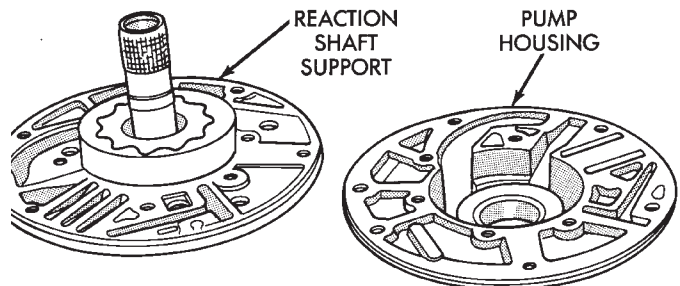

Fig. 148 Separating Pump Housing From Reaction Shaft Support
- (4) Separate support from pump housing (Fig. 148).